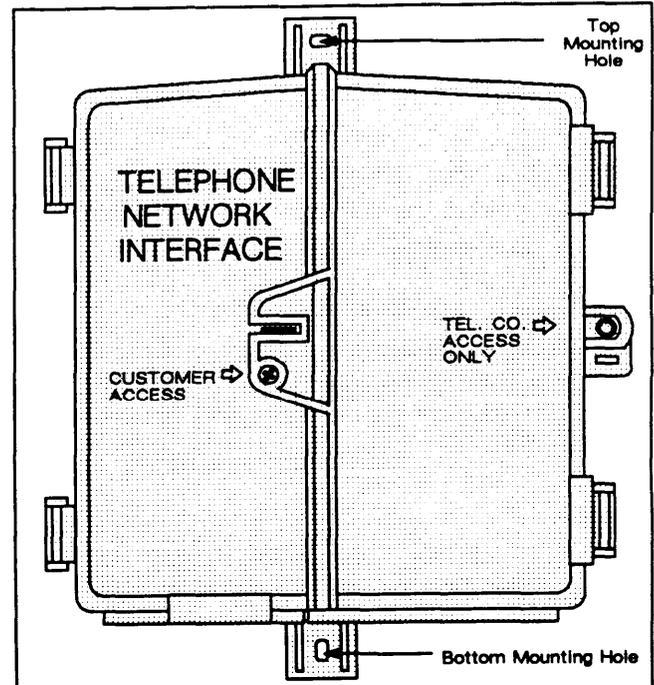

Figure 2. DDL104 DualLine Plus Remote Terminal in the Secured Position (Closed)
Determine if the RT enclosure is to be mounted on a masonry wall, on a wood studded wall, or a hollow wall. Proceed to the appropriate installation instructions that follow. Obtain the necessary equipment, tools, and hardware for the type of installation that is to be performed. Refer to Figure 2 for RT mounting hole locations.
- (8) Seal the TEL. CO. access cover if required. See Figure 2.